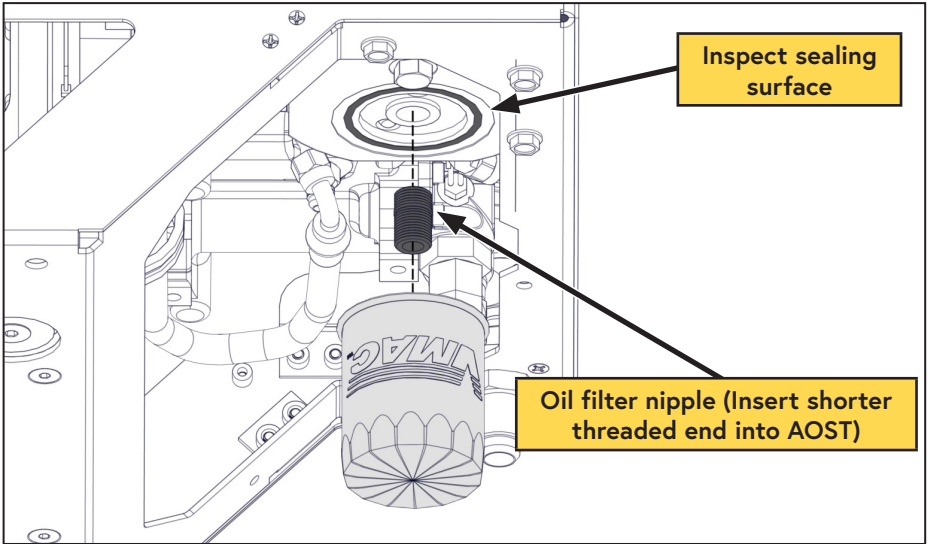

Figure 10 — Replace oil filter
- Ensure the threaded nipple did not unscrew with the oil filter (Figure 10).
- *If the nipple came out with the oil filter, remove it from the filter, being careful to avoid damaging the threads (Figure 10).
- *To reinstall the nipple, thoroughly clean the threads and apply Loctite 242 (blue) to the end with the short threads and replace it in the AOST (Figure 10).
- Clean the gasket sealing surface on the front of the AOST and inspect it for damage. The surface must be free of old gasket material, and smooth, to ensure a good seal (Figure 10).